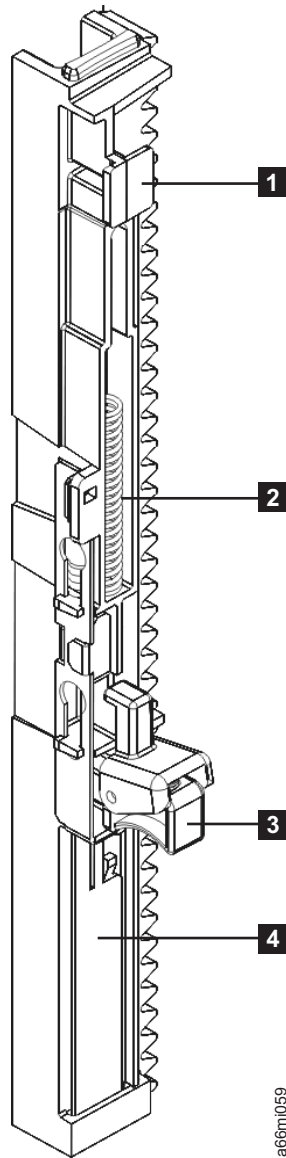

Figure 8-67. Gear rack (detail)
Note: Don't lose the spring (**2** in Figure 8-67 on page 8-69) that is recessed in the gear rack slot.
2. Using your thumb, push the metal slide (**4** in Figure 8-67 on page 8-69) toward the gear rack locking mechanism (**3** in Figure 8-67 on page 8-69) and hold it in place while inserting the black tab (**1** in Figure 8-67 on page 8-69) and locking mechanism into the keyhole slots in the library chassis.
4. Bend the small metal tab (**1** in Figure 8-67) in slightly to prevent the gear rack from moving down too far.
4. Bend the small metal tab (**1** in Figure 8-67 on page 8-69) in slightly to prevent the gear rack from moving down too far.